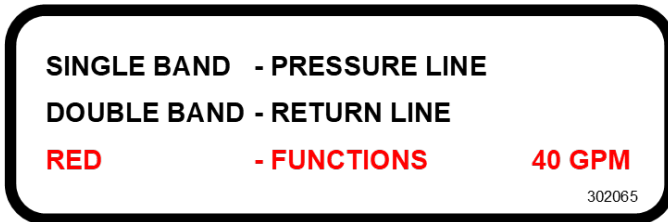
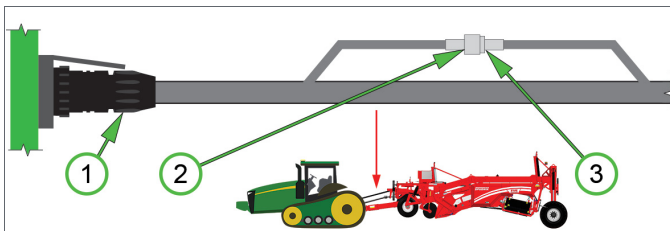
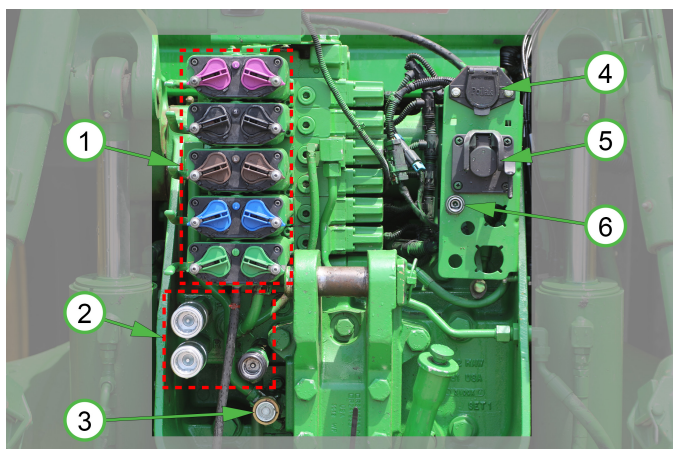

Figure 2
Figure 3
Figure 4
Connect the large-diameter hydraulic hoses to the Power Beyond ports on the tractor, the small diameter hose to the Load Sense port, and the medium-diameter hoses to an available Selective Control Valve (SCV) port. (See Figure 2 and Figure 4)
Connect the (1) Tractor ISOBUS cable connector to the Implement Bus Break-away Connector (IBBC) port on the tractor. Confirm that the (2) *CAN Disconnect B* and (3) *CAN Disconnect A* connectors are securely connected. (See Figure 3 and Figure 4)
The rear of a typical tractor provides the identified ports: (1) SCV, (2) Power Beyond, (3) Case Drain, (4) Tractor Lights, (5) IBBC, (6) Load Sense. Available ports, their arrangement, and their color designations vary by tractor manufacturer and model. (See Figure 4)